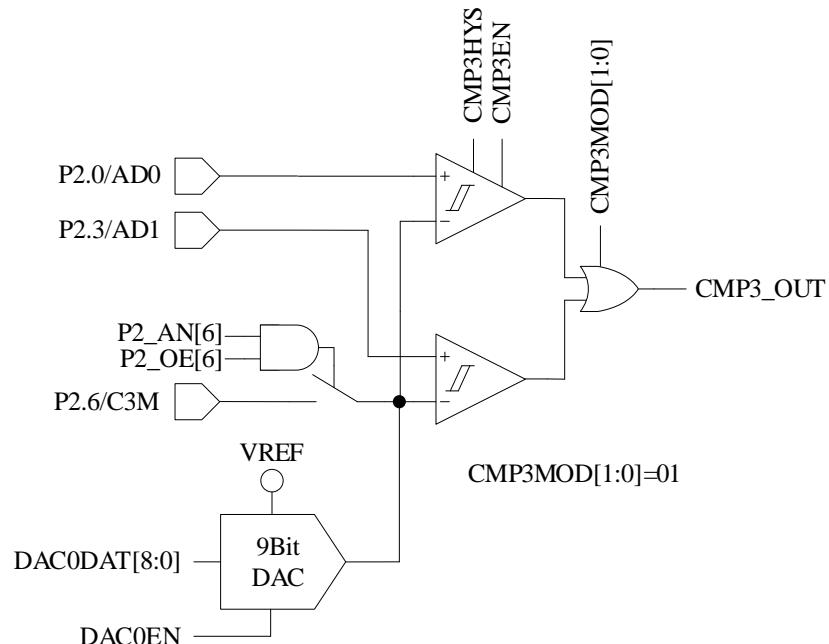

Figure 31-3 Dual-comparator Input Mode
- When CMP_CR1[CMP3MOD] = 01, CMP3 works in Dual-comparator Input Mode. The connection of input and output pins are shown in Figure 31-3.